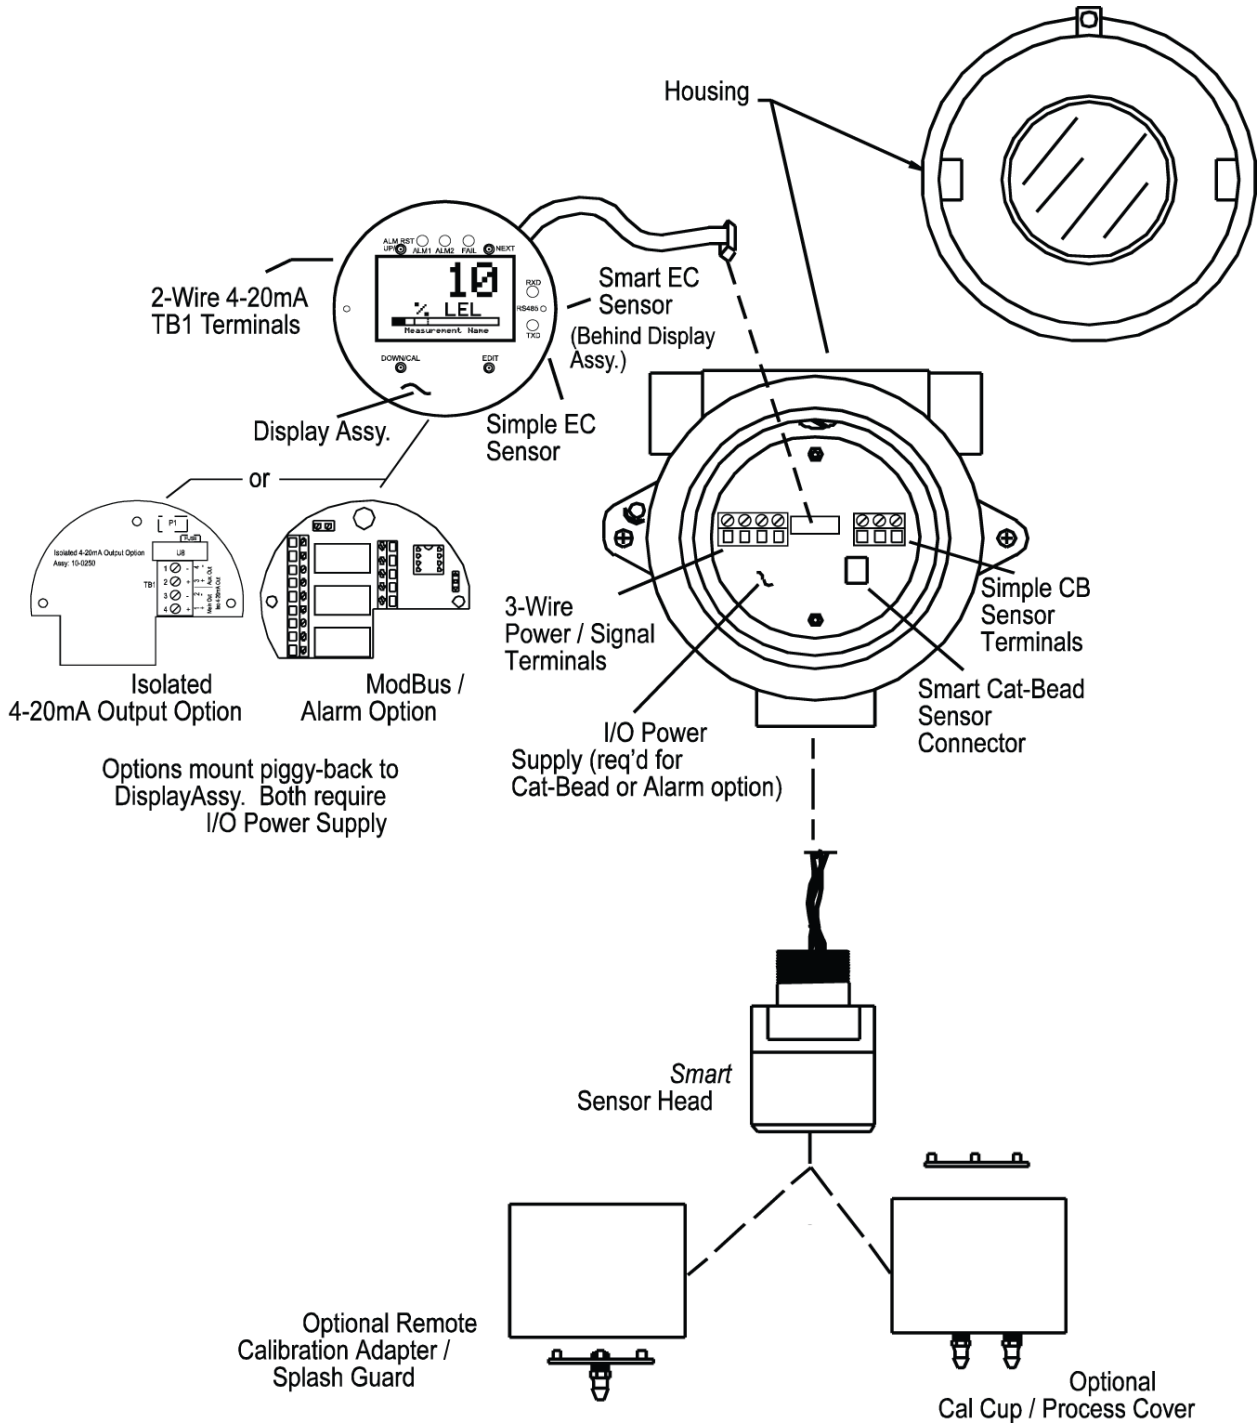
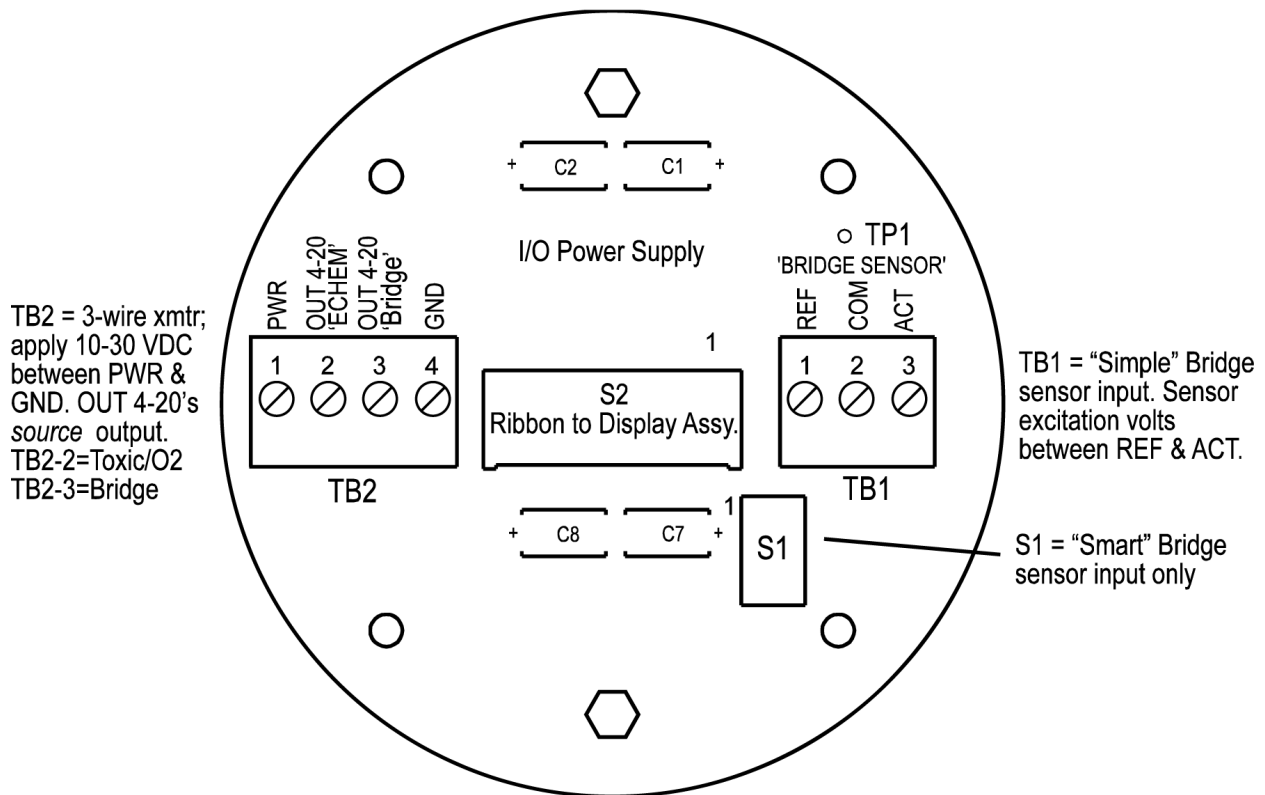
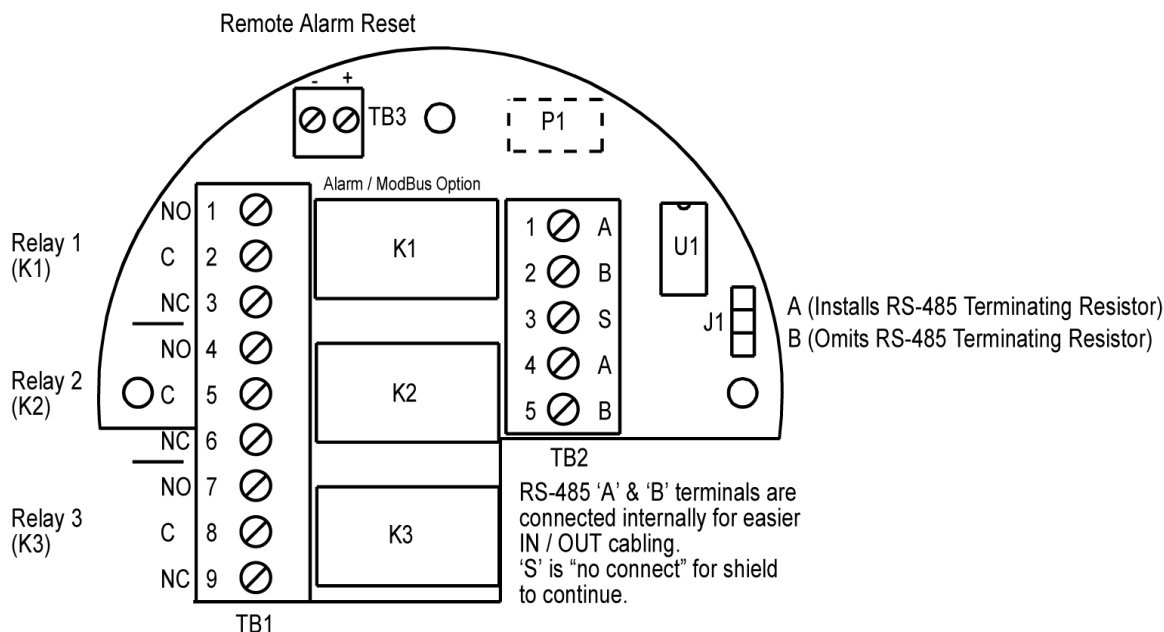
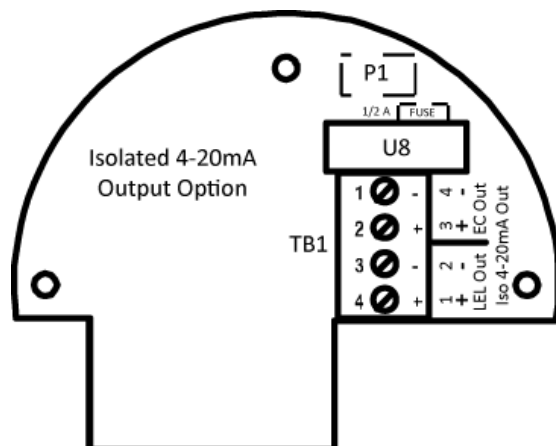

Figure 2-2: Outline Drawing (Stand-alone and Wired Version)
Figure 2-8: 5600-0006 I/O Power Supply/3-Wire 4-20 mA Assembly
Figure 2-9: Alarm Relays/Modbus Option (P/N 5600-0007)
Figure 2-11: Isolated 4-20 mA Output Option (P/N 5600-0009)
3-wire sourcing transmitters require an additional dedicated 24 VDC wire. The 4-20 mA loop current is then delivered, or sourced, from the transmitter output and the receiver device must not provide 24 VDC from its input terminal. When the GDX-350 is equipped with the bottom I/O Power Supply board (P/N 5600-0006) shown in Figure 2-8, the 2-wire 4-20 mA output is disabled and one of the boards' 3-wire outputs must be used. TB2 terminal 2 is for EChem toxic/oxygen 3-wire 4-20 mA output signals while the TB2 terminal 3 is for LEL 3-wire 4-20 mA output signals.
2.	Loosen the 2 thumbscrews holding the display assembly in place and remove it (refer to Figure 2-8). A small ribbon cable is attached with sufficient length to allow access to the I/O PCB mounted in the bottom of the enclosure.
The optional Alarms/RS-485 Modbus board (P/N 5600-0007) supplies two level alarm relays: a FAULT relay and an RS-485 Modbus RTU slave port (Figure 2-9). This board is "piggybacked" behind the Display Assembly (P/N 5600-0005) as shown in Figure 2-8. Addition of this option requires 3-wire mode, 4-20 mA operation and thereby requires the I/O Power Supply board (P/N 5600-0006) (Figure 2-8). This is because relays and RS-485 circuits require much more power than 2-wire 4-20 mA loops can deliver.
The optional Isolated 4-20 mA option (P/N 5600-0009) as shown in Figure 2-11 provides dual 4-20 mA outputs that are electrically isolated from sensor inputs and the 24 VDC power source. Each 4-20 mA output shares the same common terminal and are not isolated from one another. This board is “piggybacked” behind the Display Assembly (P/N 5600-0005) as seen in Figure 2-2. Addition of this option requires 4-wire mode 4-20 mA operation and thereby requires the use of an I/O Power Supply board (Figure 2-8).
CAUTION: Smart sensor heads with electrochemical toxic/oxygen sensors must connect to S1 located on the back of the Display Assembly (P/N 5600-0005) as seen in Figure 2-2. Smart sensor heads with catalytic bead combustible sensors must connect to S1 located on the optional I/O PCB assembly (Figure 2-8).